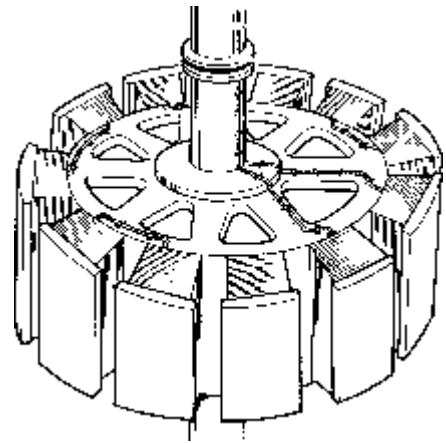

Figure 16
- have projecting poles, with cores bolted to a heavy cast iron or steel ring of good magnetic quality. See figure 16.